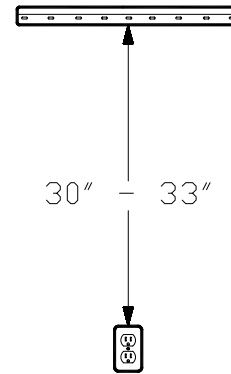

FIGURE 3
4. To mount the unit so that the wall outlet is hidden, mount the bracket 30"- 33" above the top of the outlet. (FIGURE 3)